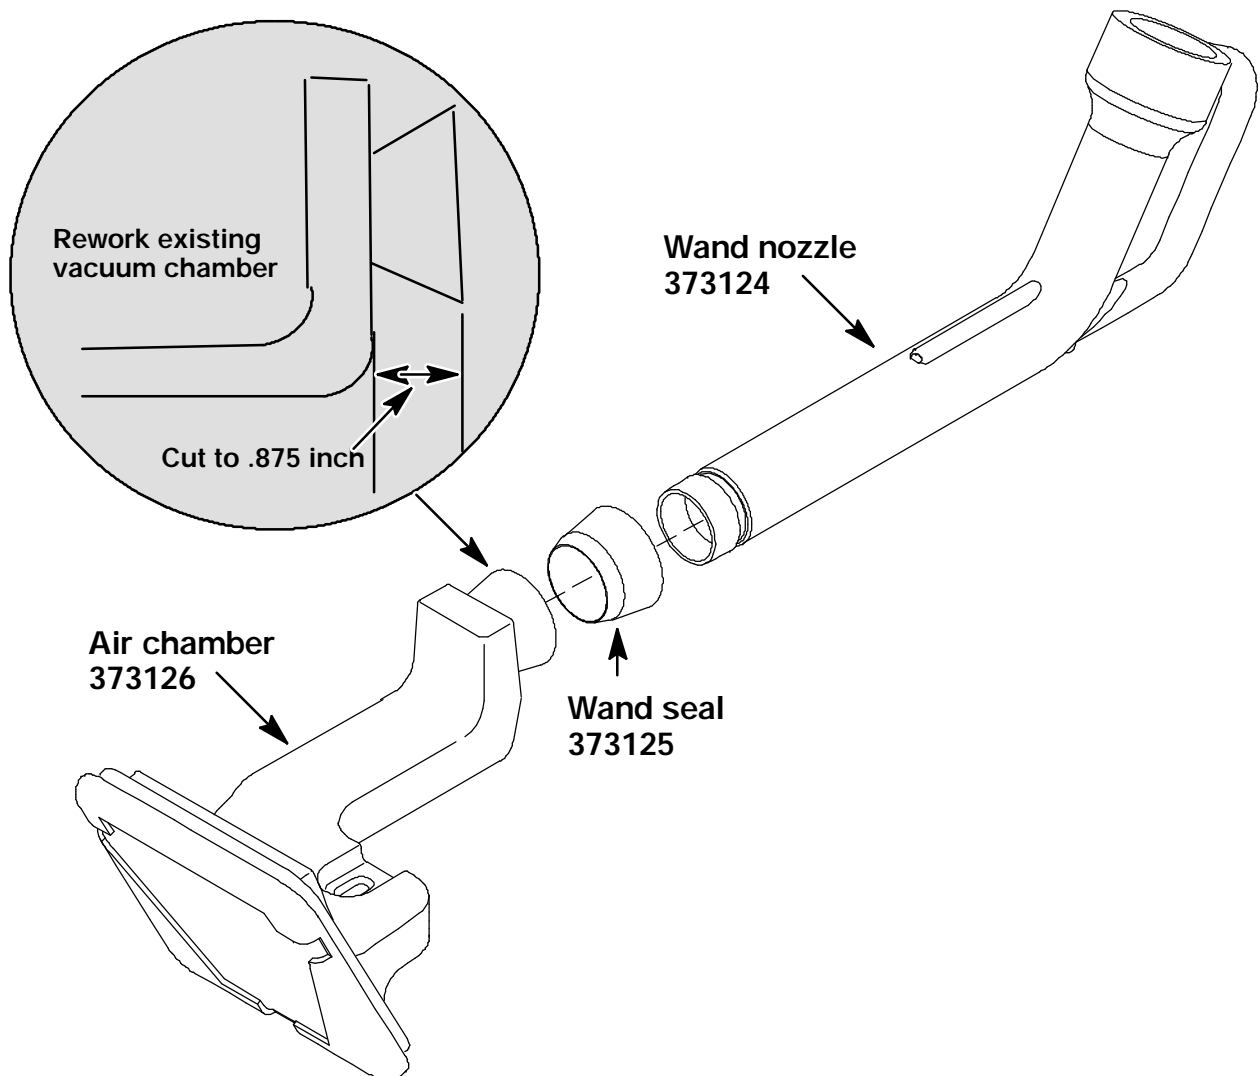

FIG. 2 - Vacuum Chamber, Seal, Wand, And Existing Chamber Rework
7. Remove the hex screw holding the existing vacuum chamber in the machine. Remove the vacuum chamber. Use a razor knife to rework the end of the existing vacuum chamber to the .875 inch dimension. (Refer to FIG. 2)
8. Install the new vacuum wand seal (2) on the reworked vacuum chamber.